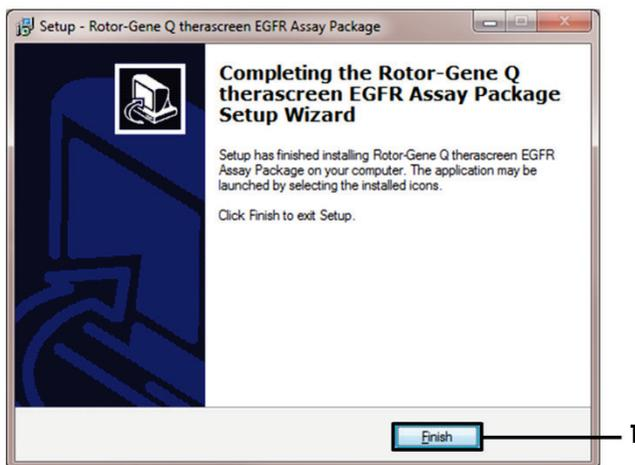

Figure 43. Completing the setup wizard (1 = "Finish").
6. After the installation is complete, click **Finish** in the final Setup Wizard dialog box (Figure 43).